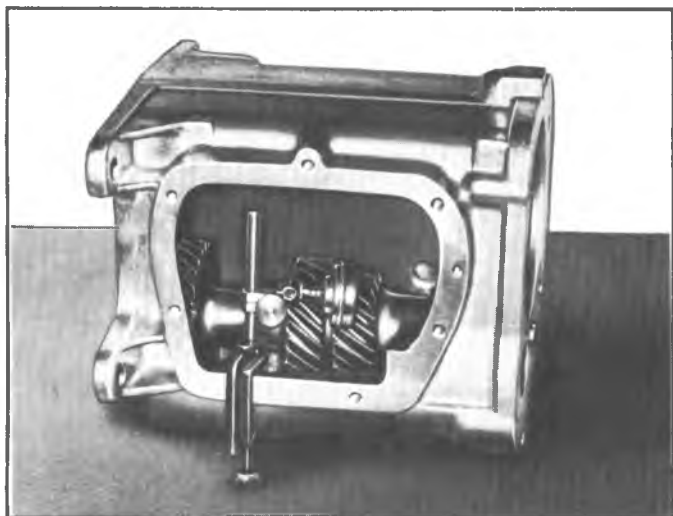

Fig. 17B - Checking Countergear End Play
6. Attach a dial indicator (fig. 17B) and check end plate of the countergear. If end play is greater than .025" new thrust washers must be installed.